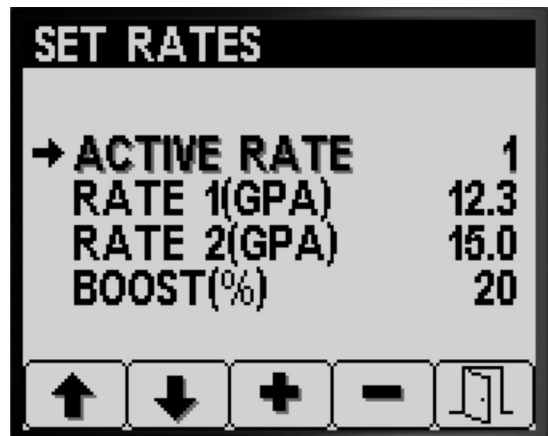

Figure 5
2. Press button 4 to select SET RATES sub-menu (Figure 5).
1. Press button 1 or 2 to navigate to the ACTIVE RATE option (Figure 5).
2. Press button 4 to select the ACTIVE RATE entry (Figure 5).
3. Press buttons 3 or 4 to set the programmed active rate to either RATE 1 or RATE 2 (Figure 5).